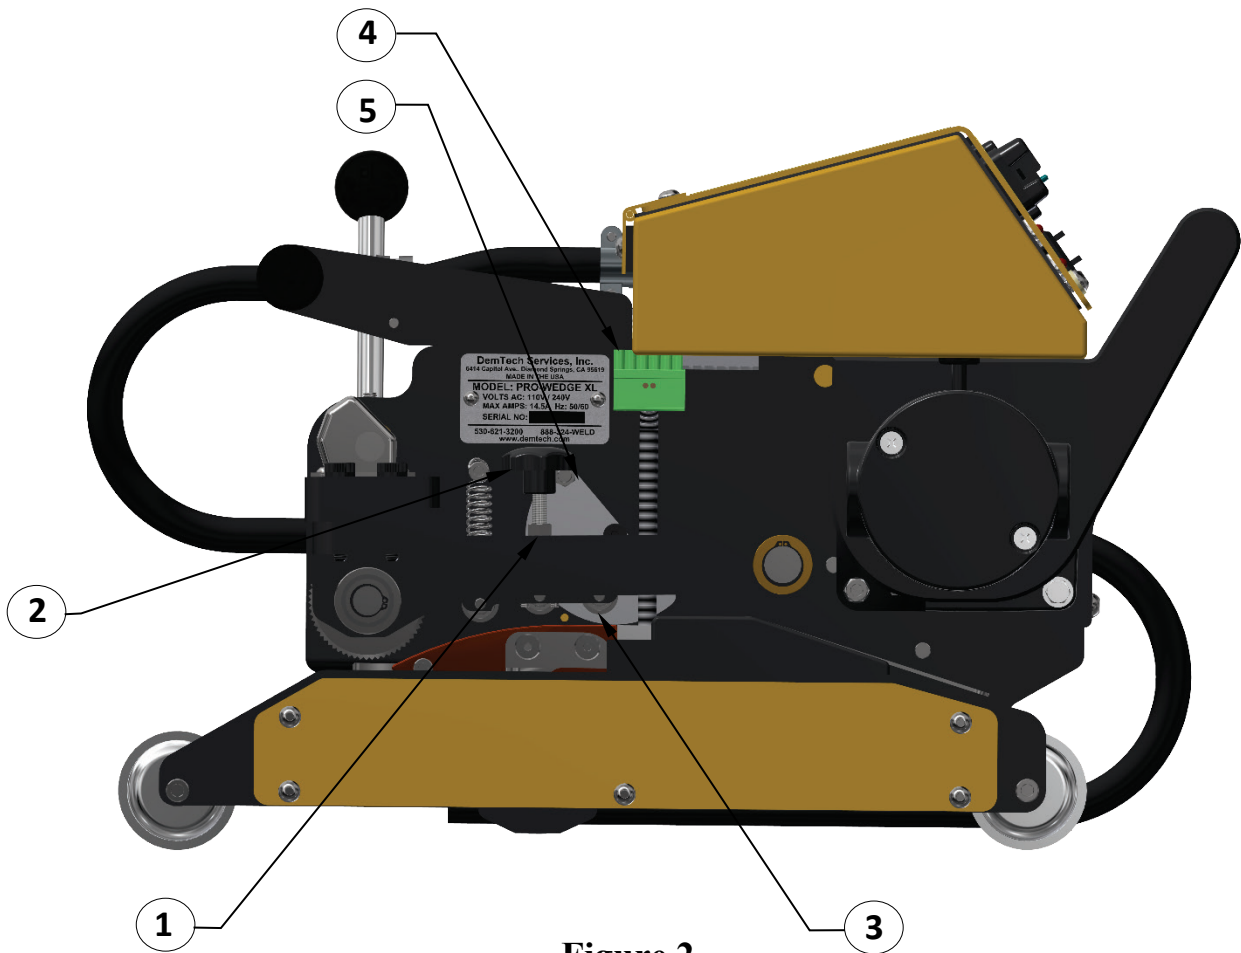

Figure 2
- b. Using a 10mm box end wrench loosen the Locknut (1) (see Figure 2) on the Upper Contour Roller Adjustment Knob. Turn the Adjustment Knob (2) (see Figure 2) counter-clockwise, raising the Upper Contour Roller Assembly (3) (see Figure 2) away from the Wedge.
- b. Insert the remaining 4" X 18" material piece between the Upper Contour Roller Assembly and the Wedge (see Diagram 4). This piece should extend out of the front of the welder (opposite end from the Nip Rollers). Adjust the Upper Contour Roller Assembly downwards by turning the Upper Contour Roller Adjustment Knob (2) (see Figure 2) clockwise until the desired tension is achieved.
- a. Disconnect the Cartridge Heater / Thermocouple Plug (4) (see Figure 2) from the bottom of the controller cabinet.
- f. Release the Cartridge Heater and Thermocouple cables from behind the Heater Cable Retention Disk (5) (see Figure 2).